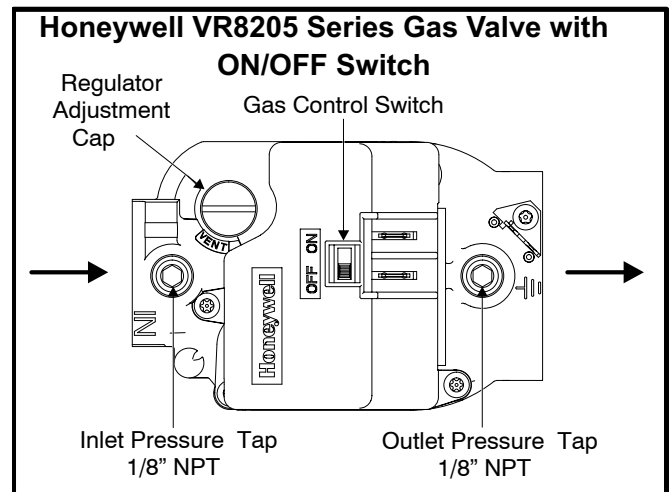
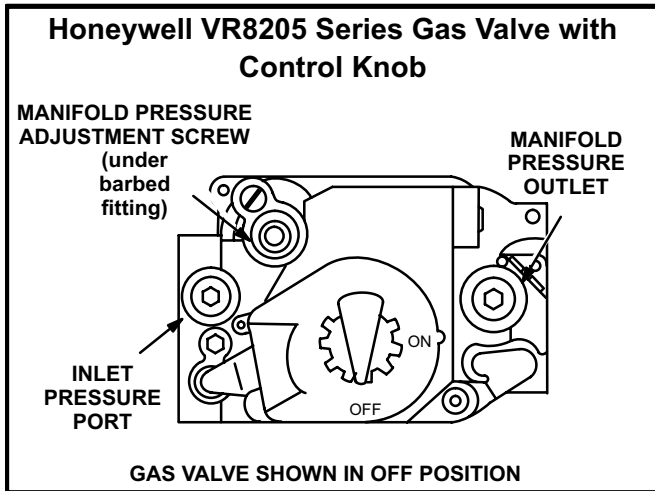

Figure 2
Figure 3
- 4 - *Honeywell VR8205 Gas Valve with ON/OFF Switch* - Set gas valve switch to **ON**. See figure 2. *Honeywell VR8205 Gas Valve with Knob* - Turn knob on gas valve counterclockwise ↶ to **ON**. Do not force. See figure 3.